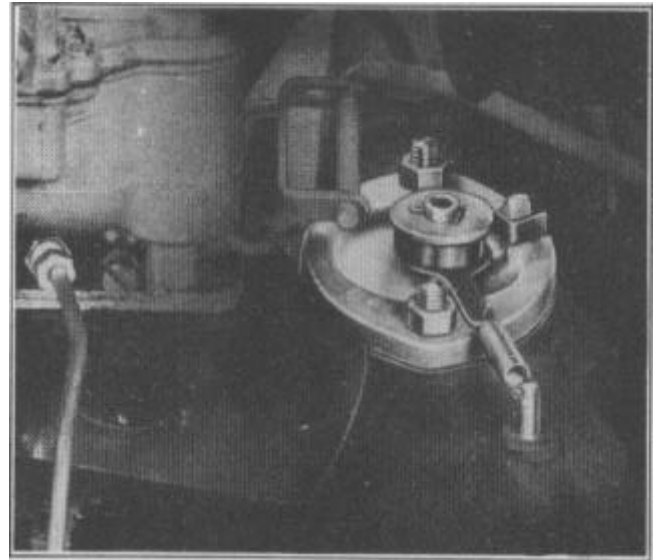

FIGURE 50
1. Remove the two nuts holding cover to manifold, Figure 50.